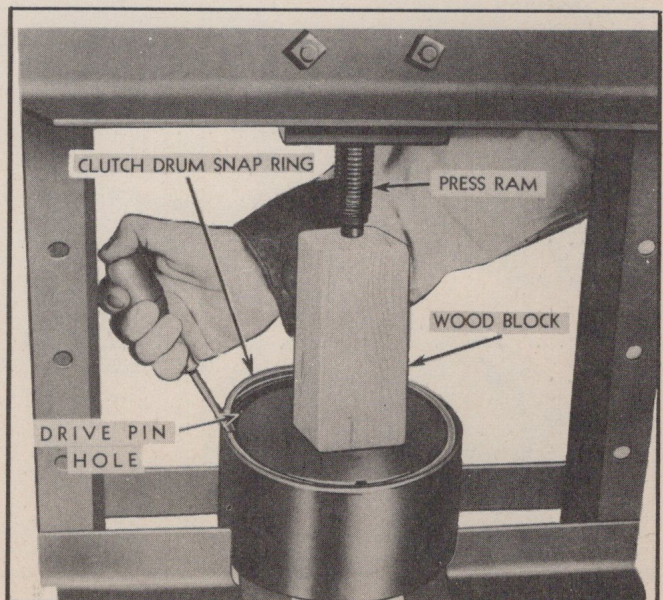

Fig. 139—Removing Clutch Drum Snap Ring
3. Place rear unit assembly in a press and remove clutch drum snap ring (Fig. 139).